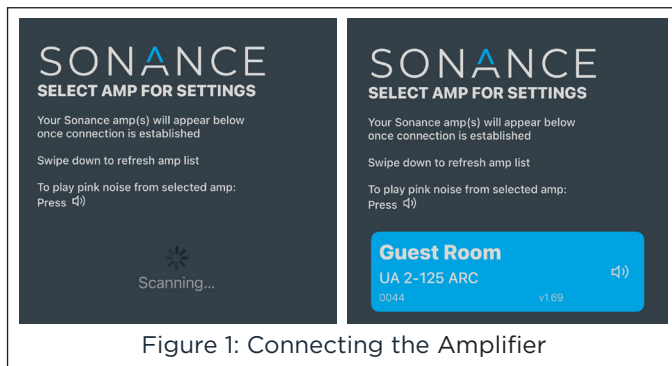

Figure 1: Connecting the Amplifier
4. When multiple amplifiers are displayed on the page, pressing the sound icon in the blue amp tile will send pink noise signal to the amplifier to help identify (see Figure 1).